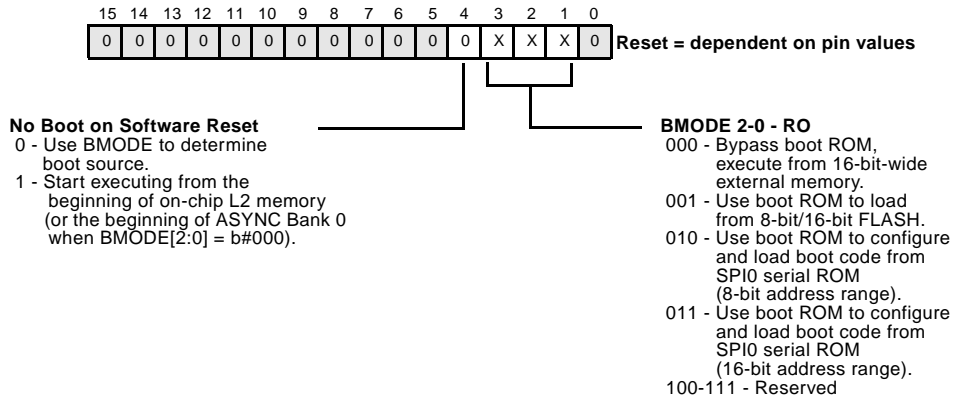

Figure 5-3. ADSP-BF535 System Reset Configuration Register (SYSCR)
2. Checks whether the `RESET` was a software reset and if so, whether the user wants to skip the whole boot sequence and jump to the start of L2 memory (`0xF000 0000`) for execution. The On-Chip Boot ROM does this by checking bit 4 of the Reset Configuration Register (`SYSCR`). If bit 4 is not set, the On-Chip Boot ROM performs the full boot sequence. If bit 4 is set, the On-Chip Boot ROM bypasses the full boot sequence and jumps to `0xF000 0000`. See Figure 5-3 as an example of `SYSCR` register bit descriptions.